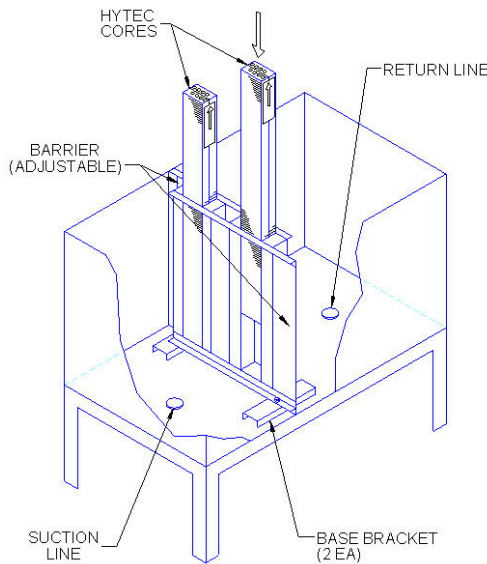

Figure 1
3. Install the HyTec barrier as shown in **Figure 1**. Position of the barrier may vary depending on the reservoir size and obstructions.
4. Install the HyTec core with the “top” end up, in the barrier as shown in **Figure 1**.